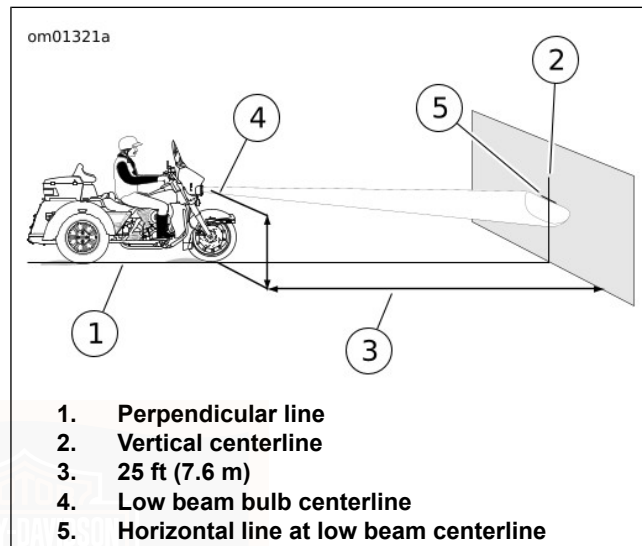
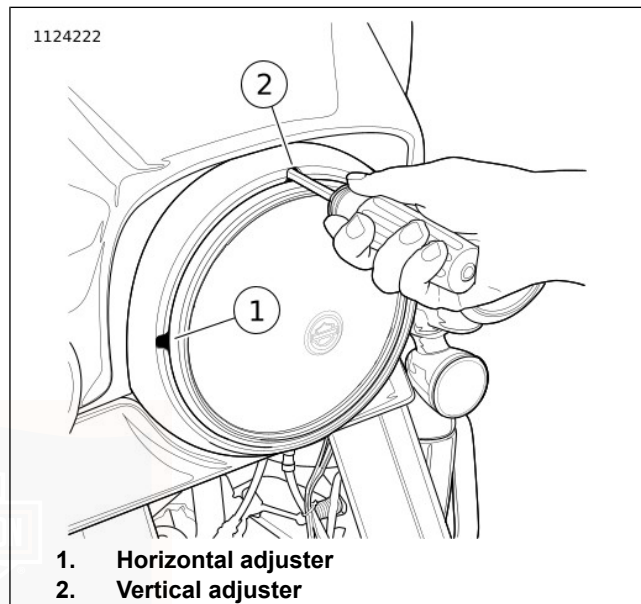

Figure 78. Headlamp Alignment: LED
Figure 79. Headlamp Adjusters: All except Frame-Mounted Fairing (typical)
4. See Figure 78. Park the motorcycle on a line (1) perpendicular to the wall.
6. Draw a vertical centerline (2) on the wall.
7. With the motorcycle loaded, point the front wheel straight forward at wall. Measure the distance (4) from the floor to the center of the **low beam (upper)** lens.
8. See Figure 78. Draw a horizontal line (5) through the vertical line at measured height.
*See Figure 78. The headlamp is aligned when the top of light beam hot spot is located as shown with headlamp set to **low beam**.*
9. See Figure 78. Verify headlamp alignment.
2. See Figure 79. Insert a 5/32 ball end hex wrench through adjuster slots in trim ring.
- a. **Horizontal:** Turn the horizontal adjusting screw (1) to adjust light beam left and right.
- b. **Vertical:** Turn the vertical adjusting screw (2) to adjust light beam up and down.
3. See Figure 78. Adjust headlamp **low beam** as shown.